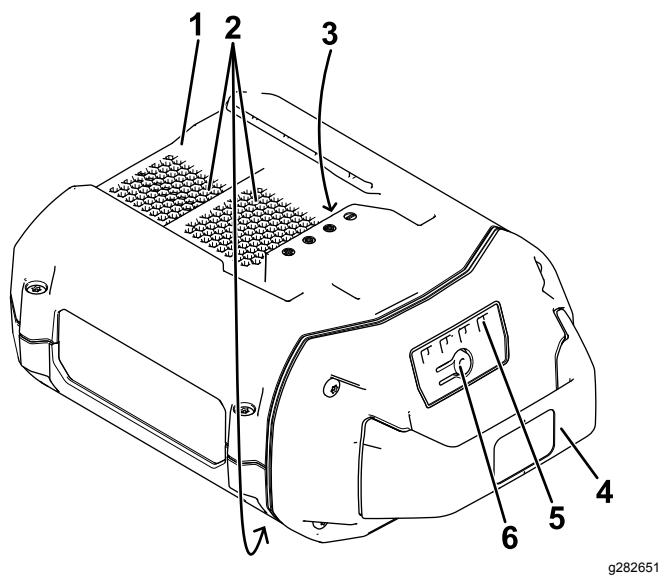

Figure 17
2. Line up the cavity in the battery pack (Figure 17) with the tongue on the charger.